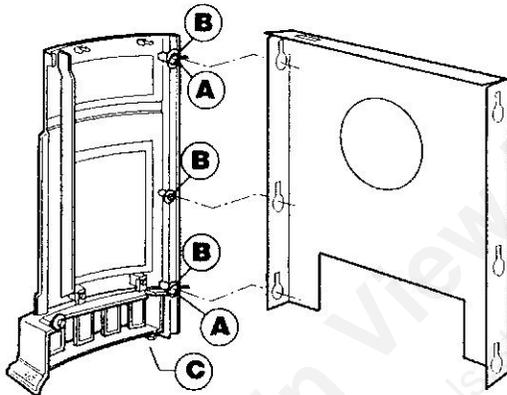

Figure 3-3. Fasten the Left Side to the Rear Shroud.
1. Use only the rear shroud supplied with this firebox. Attach the rear shroud to the left side plate by aligning the key holes with the two wingbolts (A) installed in the side. Fig. 3-3. If necessary, turn the wingbolts to orient the blades vertically. Slide the shroud downward to engage it behind each washer (B) and then tighten the wingbolts.
Type A has two steel tabs on each side, which engage the raised ridge on the top edges of the firebox base. Type B uses a large washer at the bottom forward corners of each side to engage notches in the undersides of the firebox base. Make sure that either the large washer or the steel tabs engage the firebox base as shown in Fig. 3-6. Properly positioned, the firebox will be level and locked in place. If not, adjust the levelling screws (C, Fig. 3-3) in the base of each side to keep the entire unit level.